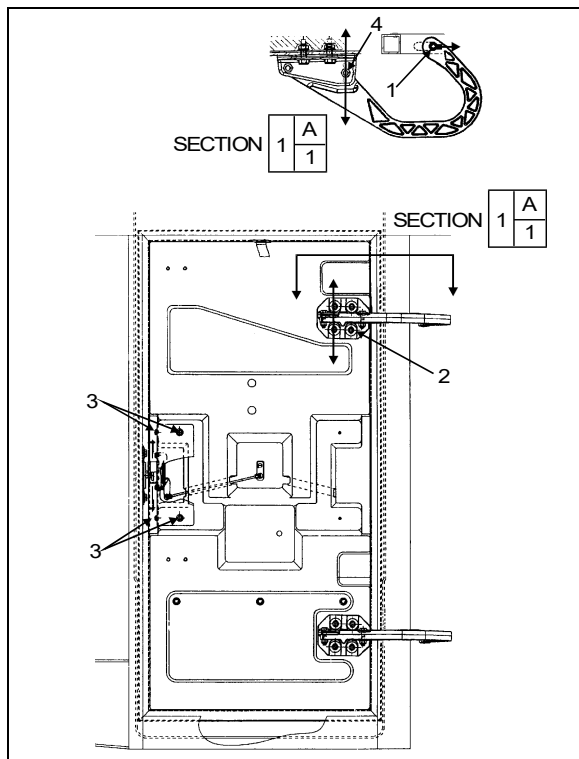

FIGURE 74: MAIN POWER COMP. DOOR
1. Loosen nut (1, Figure 74).
3. Tighten nut (1, Figure 74).
4. Loosen nut (4, Figure 74).
7. Loosen screws (2, Figure 74). Screws allow the door to be shifted "UP or DOWN".